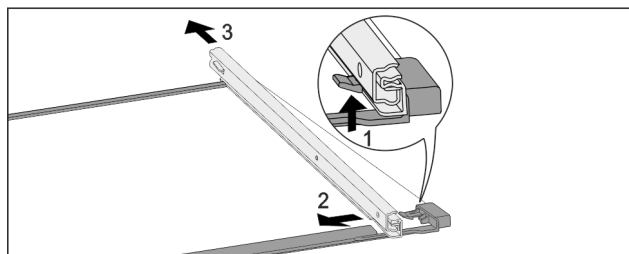

Fig. 179 Glass shelf with rails
- Push up front click-in hooks. Fig. 179 (1)
- Slide pull-out rails to the side Fig. 179 (2) and backwards Fig. 179 (3).